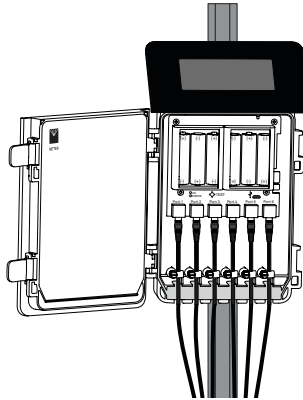

Figure 2 Logger connection
1. Plug the stereo plug connector into one of the sensor ports on the logger (Figure 2).